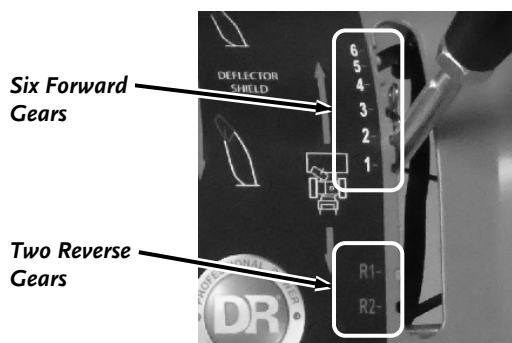

Figure 33
- The Snow Blower has six forward gears (**Figure 33**) that are labeled 1 (slowest) to 6 (fastest).